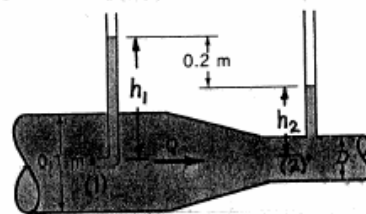

FIGURE P3.30
3.30 Water flows through the pipe contraction shown in Fig. P3.30. For the given 0.2-m difference in manometer level, determine the flow-rate as a function of the diameter of the small pipe, D .